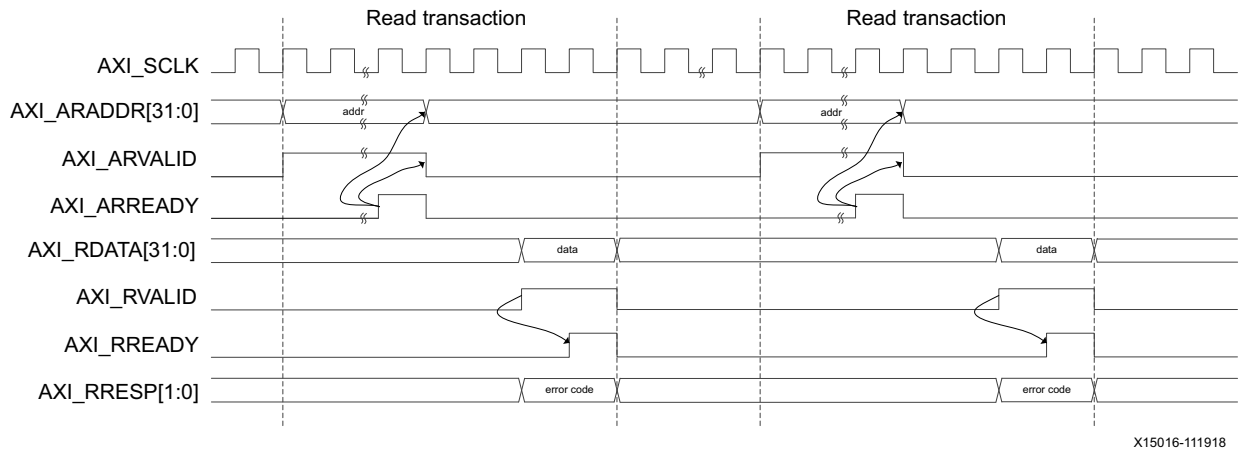

Figure 5-19: AXI4-Lite User Side Read Transaction with Invalid Read Address
- Invalid Read transactions (Figure 5-19)